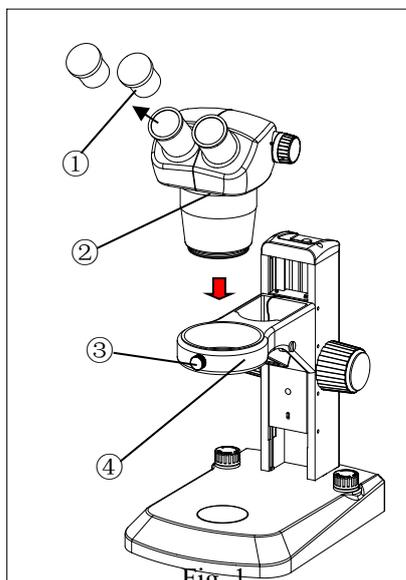
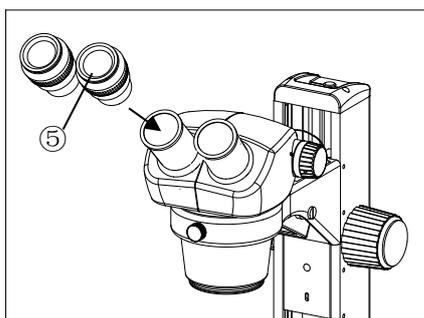
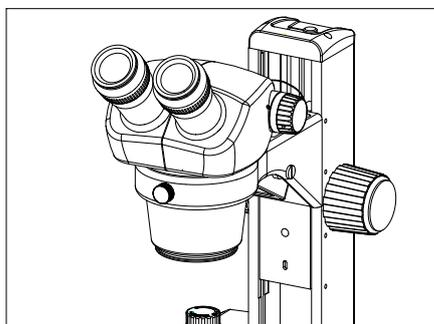

Fig.1
Fig.2
Fig.3
2.2.1 Mounting binocular head (Fig.1)
2.2.2 Mounting eyepieces (Fig.1, Fig.2, Fig.3)
Remove the eyepiece dust caps① and gently insert two adjustable eyepieces ⑤ into the eyepiece sleeves until they stops, as in Fig.3.